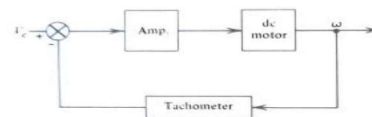

Figure 4-11 Typical machine drive unit.
A simple control loop containing a dc servomotor, amplifier, and tachometer is shown in Fig. 4-11. This loop is referred to as the machine drive unit and is contained
- simple control loop containing a dc servomotor, amplifier, and tachometer shown in Fig. 4-11. This loop is referred to as the machine drive unit and is contained